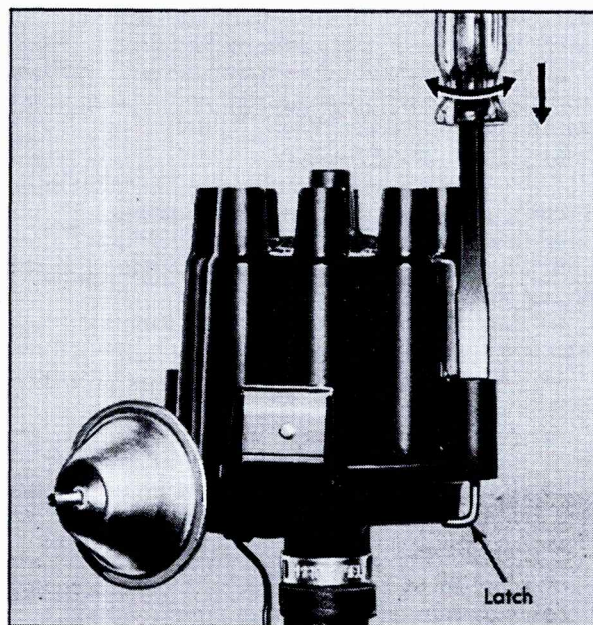

Fig. 6-48 Distributor Cap Removal
1. Remove distributor cap as shown in Fig. 6-48 and position out of way.
a. Disassembly (Fig. 6-48)